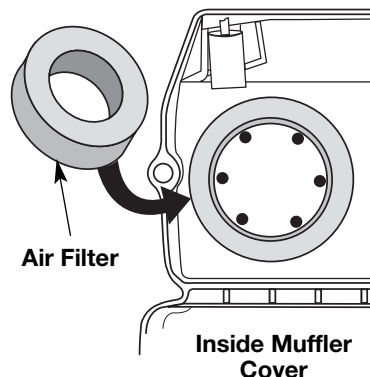

Fig. 24
2. Turn cover over and look inside to locate the air filter. Remove the air filter from inside the air filter/muffler cover (Fig. 24).
6. Replace the air filter inside the air filter/muffler cover (Fig. 24).